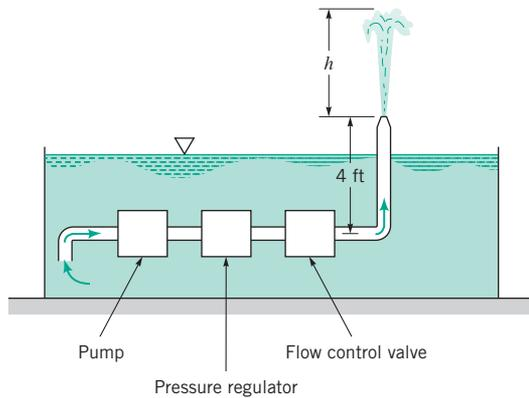

FIGURE P8.47
**8.47** (See Fluids in the News article titled “New hi-tech fountains,” Section 8.5.) The fountain shown in Fig. P8.47 is designed to provide a stream of water that rises  $h = 10$  ft to  $h = 20$  ft above the nozzle exit in a periodic fashion. To do this the water from the pool enters a pump, passes through a pressure regulator that maintains a constant pressure ahead of the flow control valve. The valve is electronically adjusted to provide the desired water height. With  $h = 10$  ft the loss coefficient for the valve is  $K_L = 50$ . Determine the valve loss coefficient needed for  $h = 20$  ft. All losses except for the flow control valve are negligible. The area of the pipe is 5 times the area of the exit nozzle.